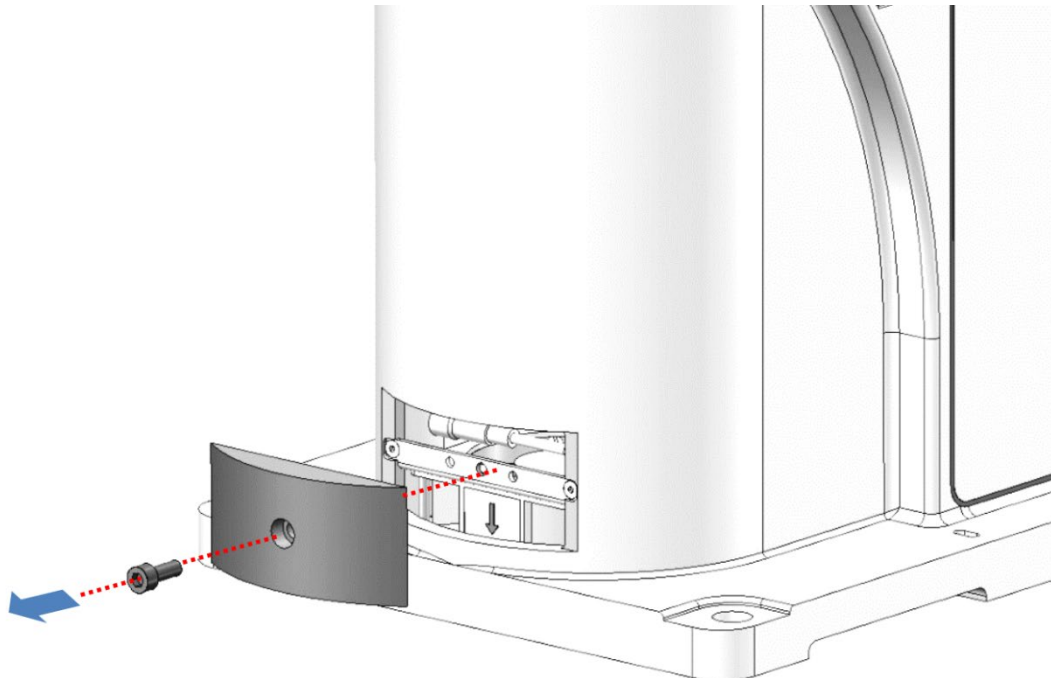

Figure 5-3 Take out the protective cover
Step 2 Use 6 mm Allen wrench to remove the fastening screws from the protective cover and take out the protective cover, as shown in Figure 5-3.